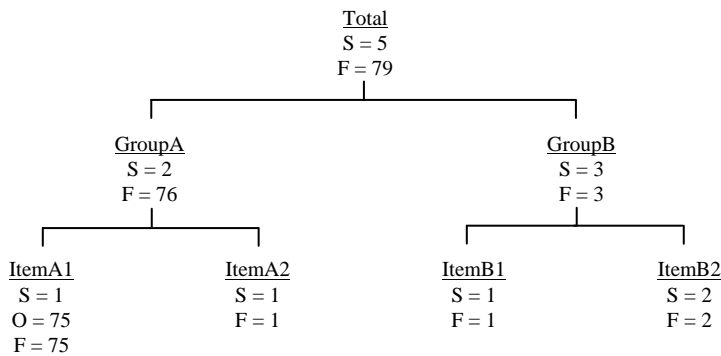
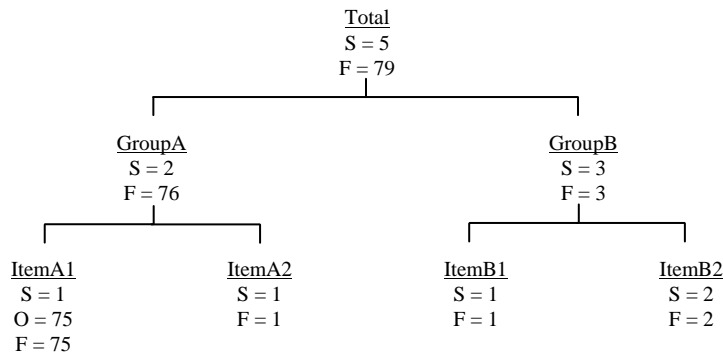

Figure 2.
Figure 4.
Let's now modify the above hierarchy by overriding the forecast for ItemA1 to equal 75. This results in the hierarchy shown in Figure 2 below.
Figure 4 below depicts a forecast hierarchy where ItemA1 has been overridden to equal 75. (It is identical to Figure 2.)
- 1.) Forecast Pro Unlimited used the *Statistical* forecasts for GroupA and GroupB to determine the allocation proportions NOT the previously committed *Forecasts* displayed in Figure 4. Using the committed Forecasts from Figure 4 would have resulted in a dramatically different allocation.